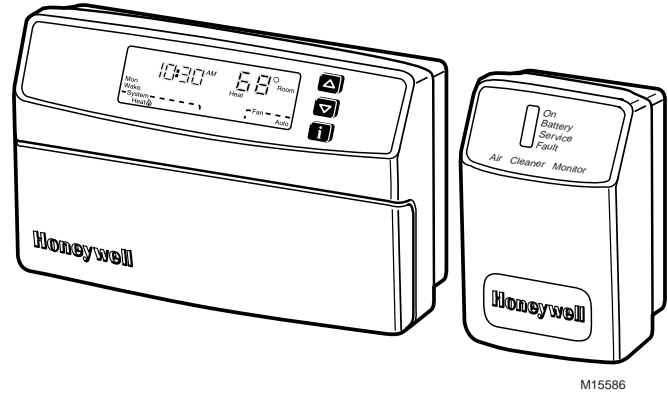

Fig. 13. Complete T8600/W8600F installation.
15. Push the W8600F reset button. All four indicators on the display will flash 5 times. The ON indicator will stay active as long as the EAC is on. See Fig. 13.
If the air cleaner has a W8600F Air Cleaner Monitor the SERVICE indicator will activate to indicate that it is time to wash the prefilter(s) and cell(s). The time between activation of the SERVICE indicator is based on air cleaner run time that is selected by the installer at installation. See W8600F installation instructions, page 9, for instructions on selecting air cleaner run time. Pressing the Reset button on the bottom right corner of the housing resets the W8600F SERVICE indicator. See Fig. 13.